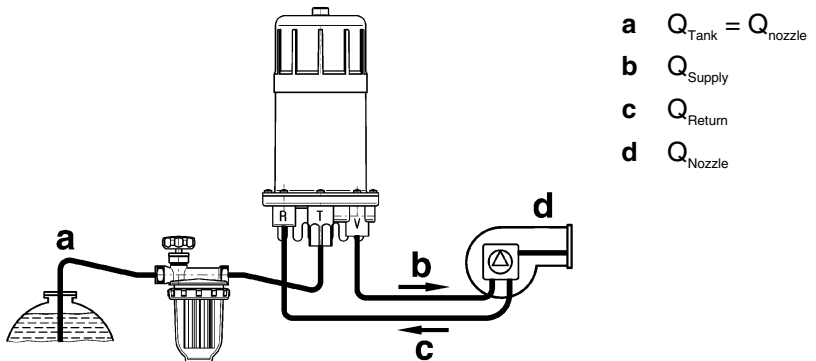

Fig. 3: Flow-Control 3/K-2 with filter
- ▶ Mount Flow-Control as shown in fig. 3, page 6.